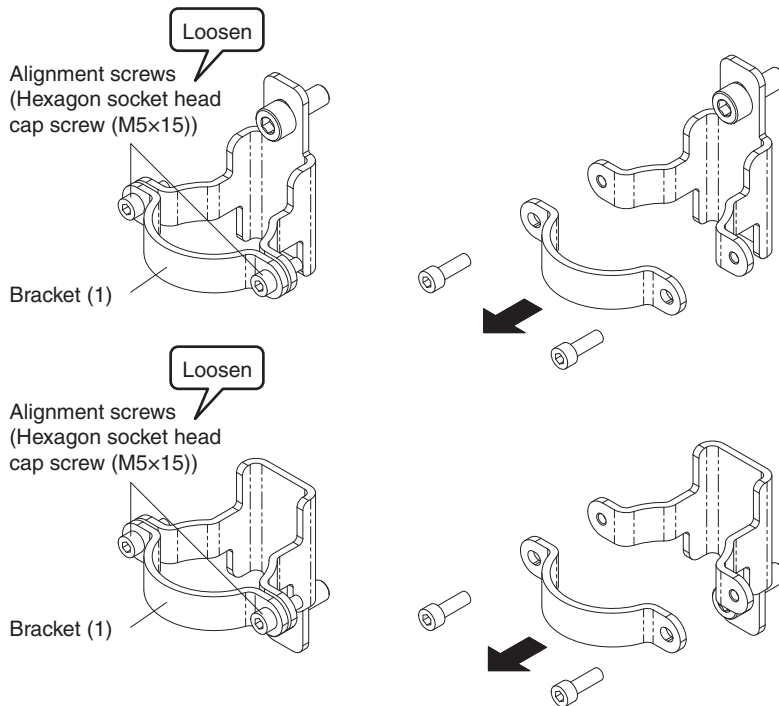

Fig. 2
2. Loosen the alignment screws of the bracket (hexagon socket head cap screw (M5×15)) to remove the bracket (1) (Fig. 2).